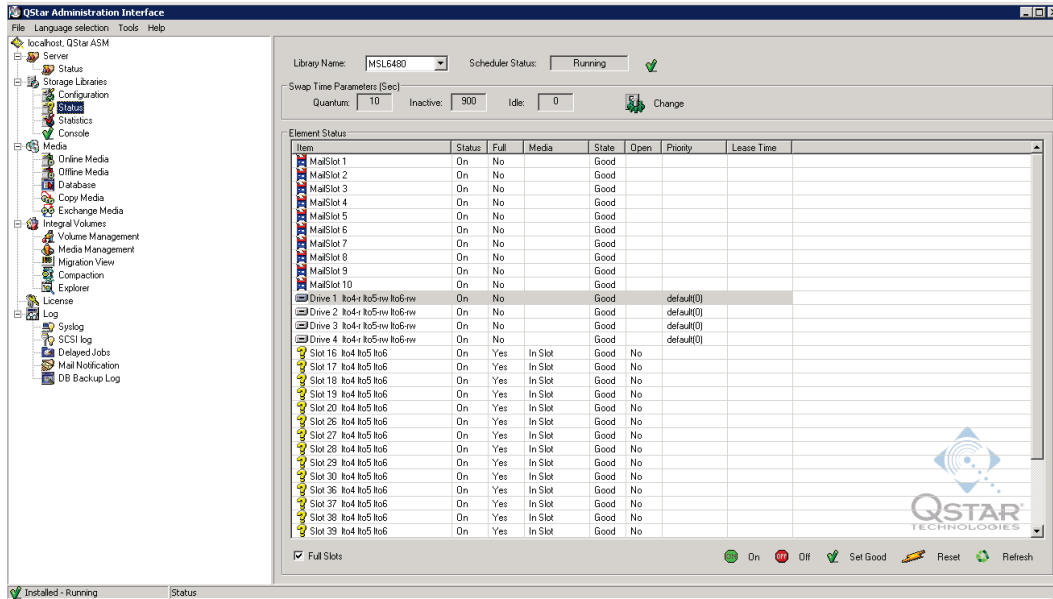

Figure 15. Viewing the library status
5. You can verify that the library was successfully configured by clicking on **Status** under **Storage Libraries**. See **figure 15** as an example.